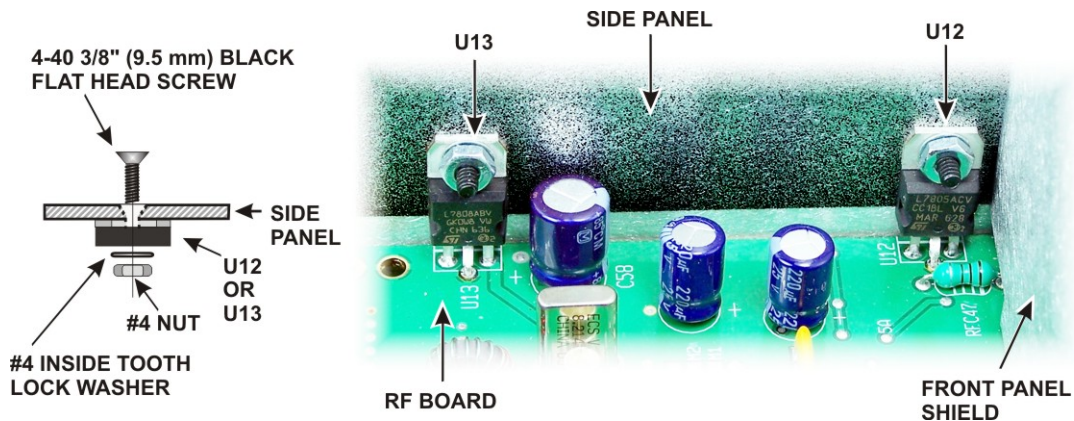

Figure 5. U12 and U13 Hardware.
- Remove the hardware securing the heat sinks of U13 and U12 to the right side panel (see Figure 5). Be careful not to lose the lock washers inside the K3.